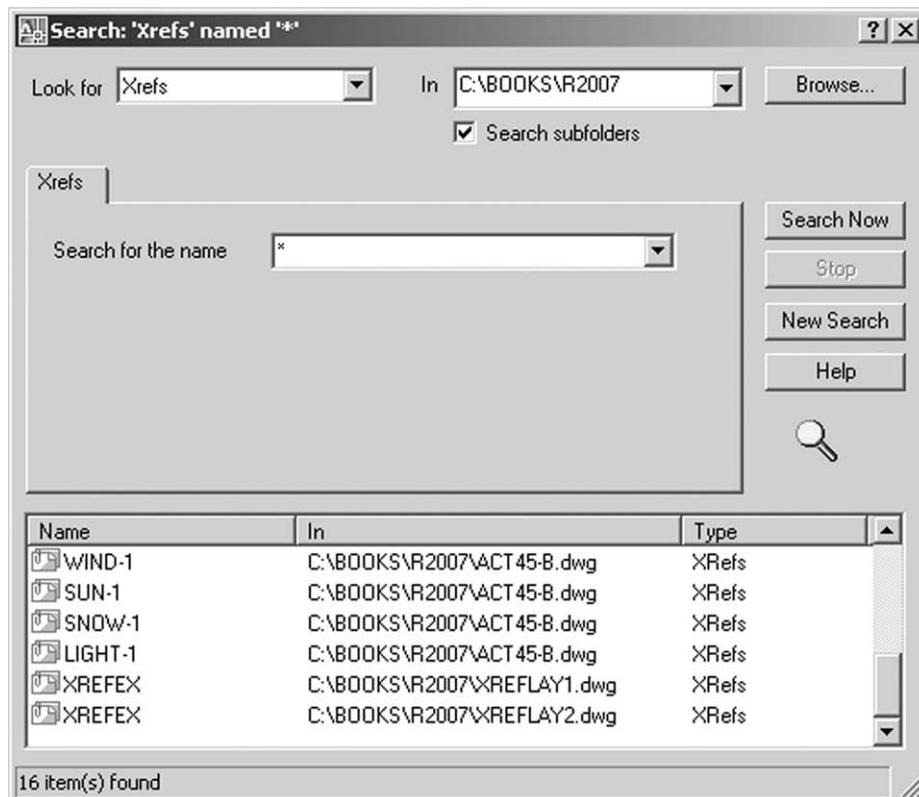

Figure 31.6 The Design Center Search dialogue box. The item of the search is 'Xrefs' in the C:\BOOKS\R2007 folder.
with a list of the 'found' Xrefs similar to Figure 31.6.
b) My Figure 31.6 has the folder name as C:\BOOKS\R2007 (instead of MYCAD).